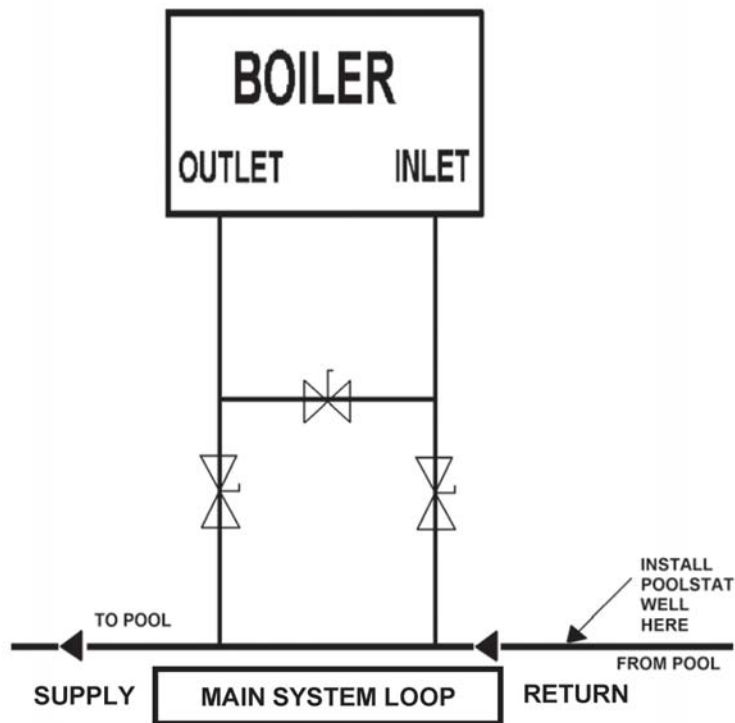

Fig. 8
1. Locate and mark an area on the main system return loop pipe where the well is always exposed to the water circulating back from the pool. See Fig. 8.